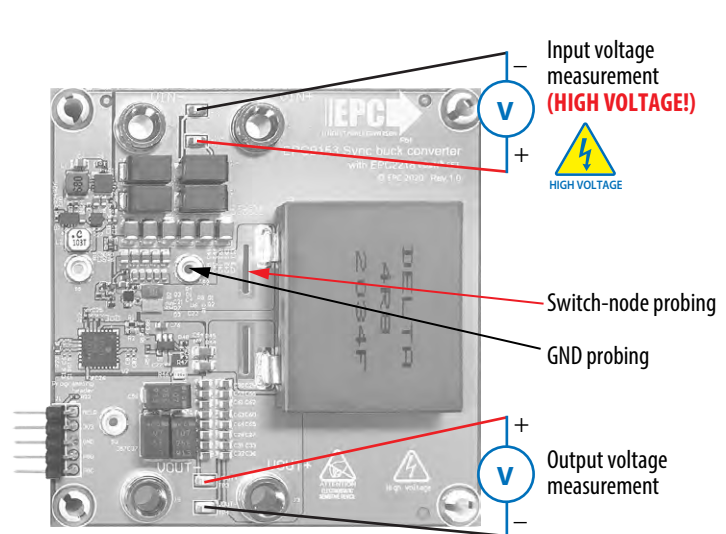

Figure 14: Measurement connection
4. Once operational, adjust the load within the operating range and observe the switching behavior, efficiency, transient response and other parameters as in Figure 14.